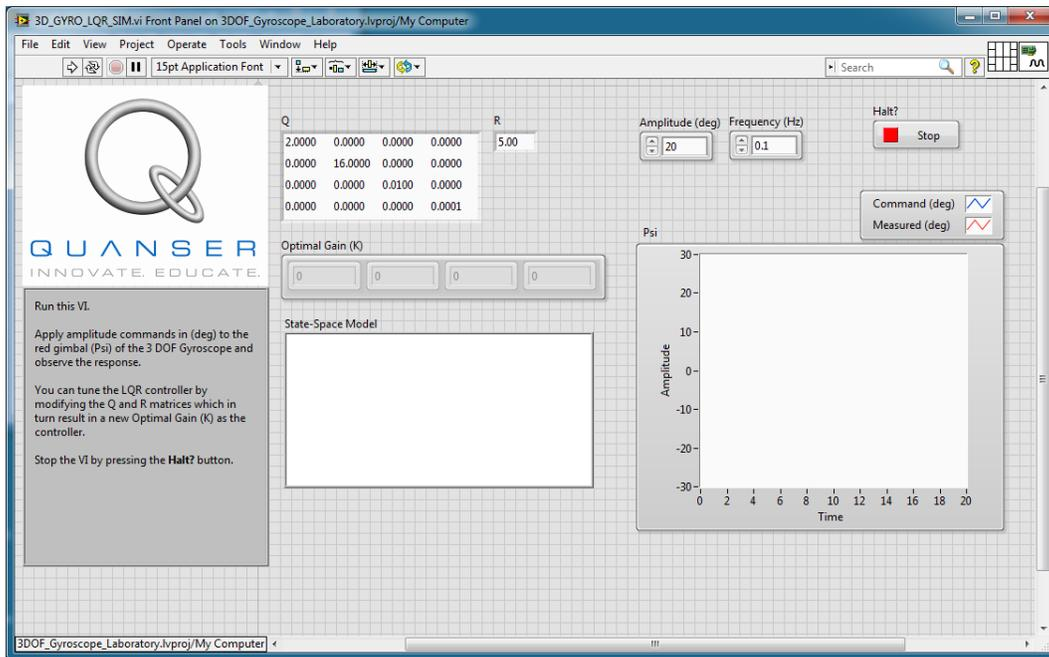

Figure 4.2: 3DOF Gyroscope Simulation VI
3. Open the *3D\_GYRO\_LQR\_SIM.vi* shown in Figure 4.2.